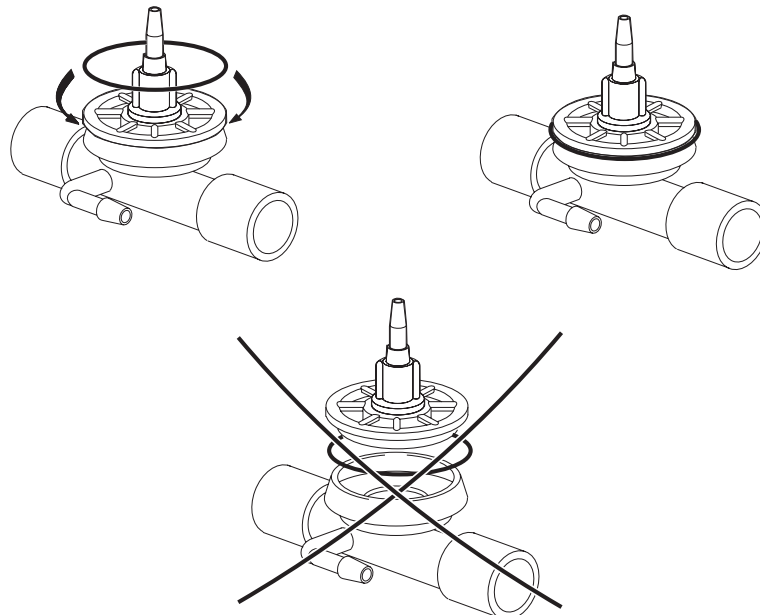

Fig. 3-5 Fitting O-ring to exhalation valve
- Remove the plastic nut (1) holding the PEEP adapter.
- Pull the adapter (2) up from the exhalation valve. Do not remove the O-ring (3).
- Check that the O-ring seal is still properly in place. If not, fit it to the exhalation valve as shown in figure 3-5. Do **not** fit the O-ring to the exhalation valve cover before screwing it on.